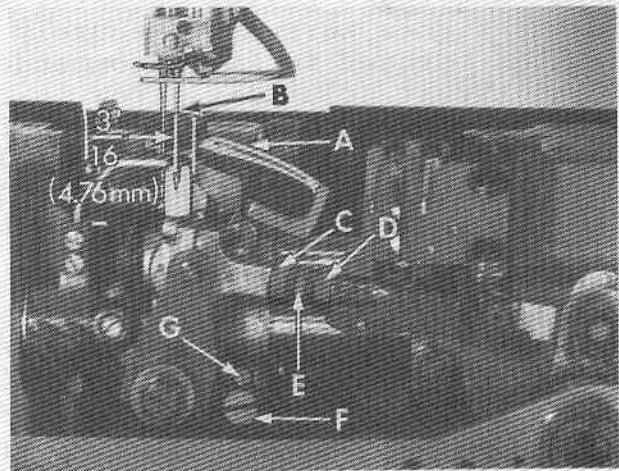

Fig. 7
Insert a new needle in the right needle seat, type and size as specified. If the looper gauge is 3/16 inch (4.76 mm), for example, set the looper (A, Fig. 7) so the distance from the center of the right needle (B) to the point of the looper is 3/16 inch (4.76 mm) when the looper is at its farthest position to the right. Looper gauge No. 21225-3/16 can be used advantageously in making this adjustment. Refer to chart below for needle type, looper gauge setting and looper gauge number for the various styles of machines. If adjustment is required loosen nut (C) (it has a left hand thread) and nut (D) on connecting rod (E), turn the connecting rod forward or backward to obtain the 3/16 inch (4.76 mm) dimension. Retighten both nuts, first nut (D) and then nut (C). Make sure the left ball joint is in vertical position and does not bind after adjustment.
If adjustment is necessary, loosen lock screw (F, Fig. 7) and turn stop screw (G) as required. Turning stop screw clockwise sets the looper to the rear and turning it counterclockwise acts the reverse. Holding looper to the front while making this adjustment may prove helpful. Tighten lock screw (F) when setting is obtained and recheck the adjustment.